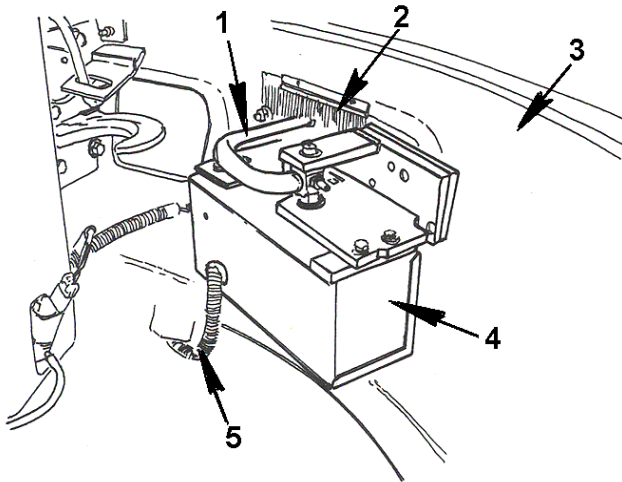

Figure 85 Safety Gate Drive Motor Assembly
1. To remove the safety gate drive motor assembly unplug power supply harness (Figure 85, Item 5).